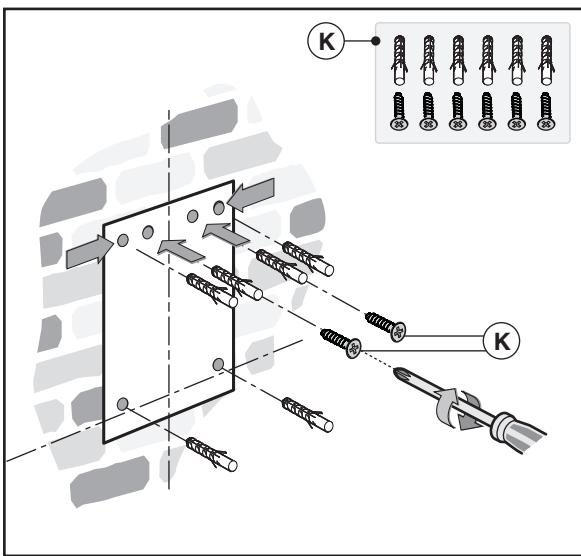

Fig.5
-Mark the fixing holes and cut them into the material (Fig.5).
-Fix the 2 top screws **K** and screw anchors (Fig.5), without tightening them completely.